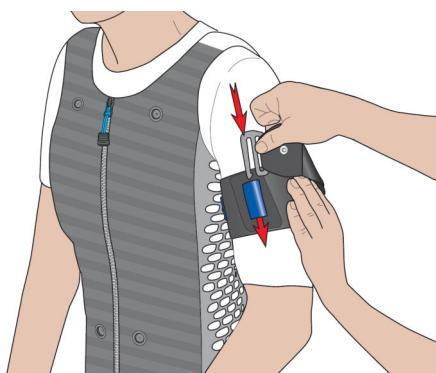

Fig. 40: Closing the i-body® strap flex
8. ➤ Insert the hook into one of the loops (Fig. 40). Adjust the width so that it is comfortable for the athlete and at the same time provides enough contact pressure.